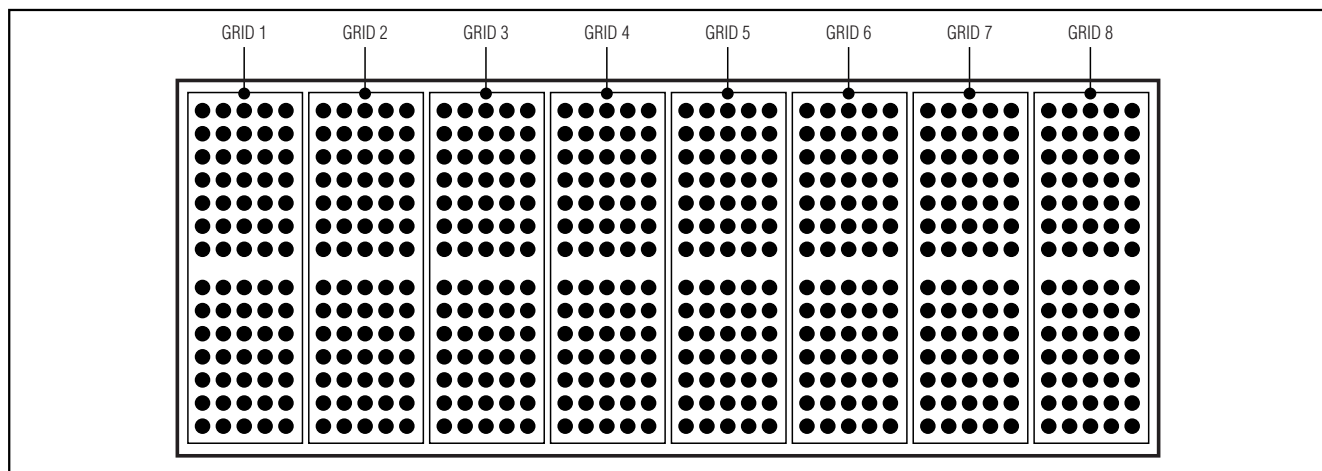

Figure 2. Example of a Two-Digits-per-Grid Display (8 Grids, 16 Digits)
- Multiplexed displays with two digits per grid, and up to 48 grids (in 96/2 mode). Each grid can contain two 5 × 7 matrix characters, two DP segments, and two cursor segments. No annunciator segments are supported (Figure 2).